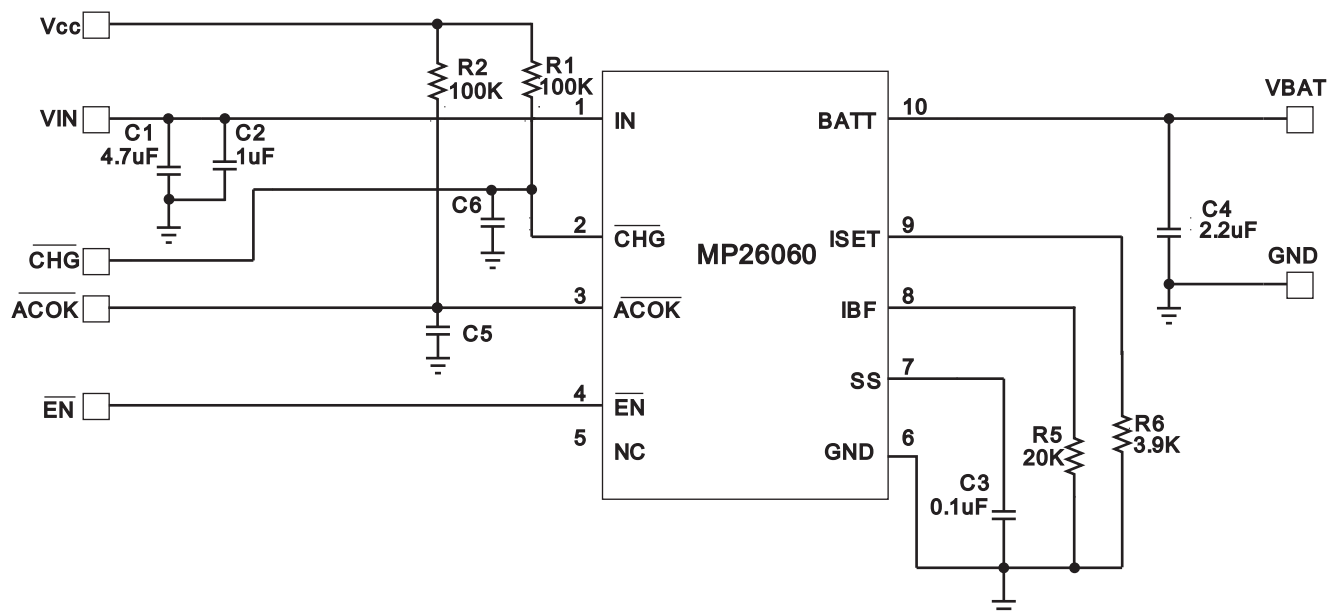

Figure 5—Filtered Charge Status & Input Power Good Interface
When interfacing with the system, glitches may occur on the power supply input (IN) when the AC-power adapter is plugged in and out. It is desirable to blank the glitches so that the system can properly operate with AC power adaptor. A simple Solution is to add the RC filter (C5 and C6) on the pin $\overline{ACOK}$ / $\overline{CHG}$ as shown in Figure 5. The size of C5 and C6 depends on the width of the glitch and the rise time of the interface.
Power-On Reset (POR) feature can be applied to the MP26060 to ensure that the device starts operating in a known state. The flow chart in Figure 5 describes the conditions and operation